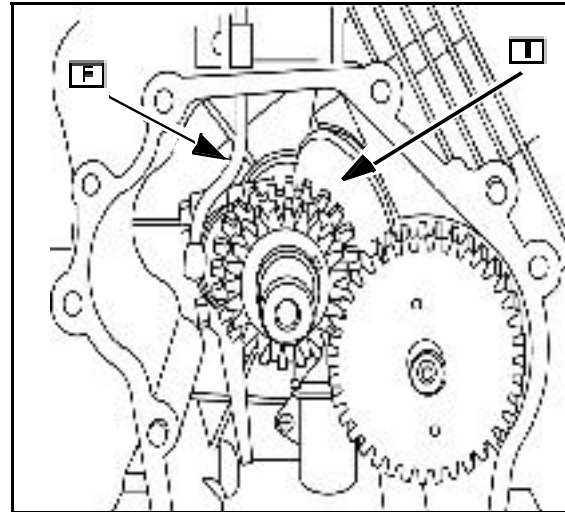

Fig. 14
4. Rotate crankshaft ([I] Fig. 14) as necessary for adequate clearance to remove governor crank (F).